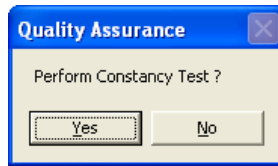

Figure 5-8
11. If the calibration was successful, Eu152 Linearity Correction results appear on the screen and the software prompts you to perform Constancy Test as shown in Figure 5-8. Click the  button or press the *Y* key to proceed. Otherwise, click the  button or press the *N* key to exit the Auto Calibration procedure.